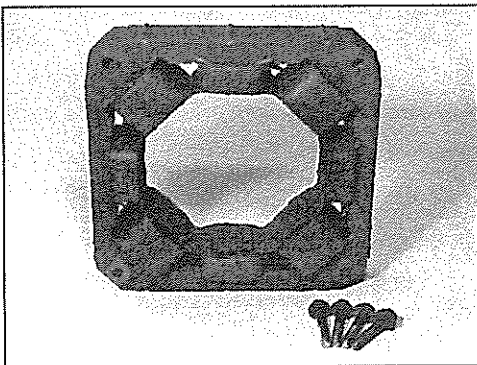

Figure 6-32
1. Clean dust and dirt from the stator winding (see figure 6-32 and section 5).
1. Clean dust and dirt from the exciter armature and rectifier assembly (see figure 6-32 and section 5).